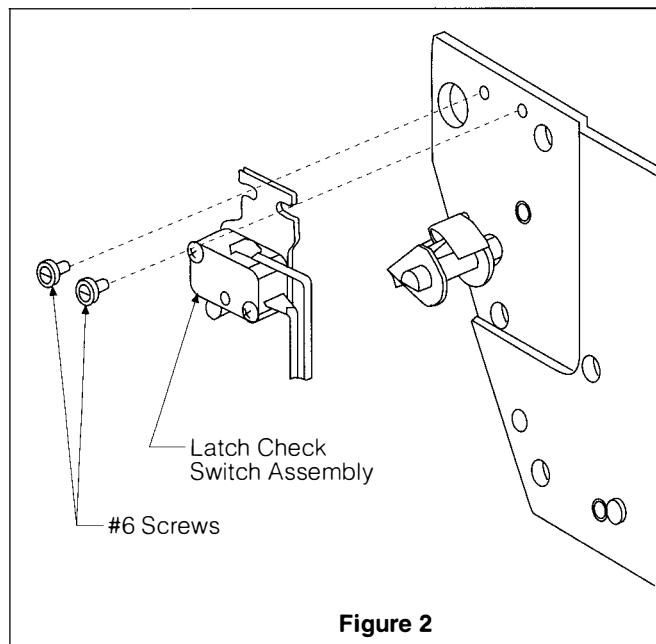

Figure 2
- 5.) Install the latch check switch assembly (see figure 2). Secure the latch check switch assembly to the mechanism plate using (2) #6 screws provided. Do not tighten screws until the latch check switch assembly is properly adjusted.